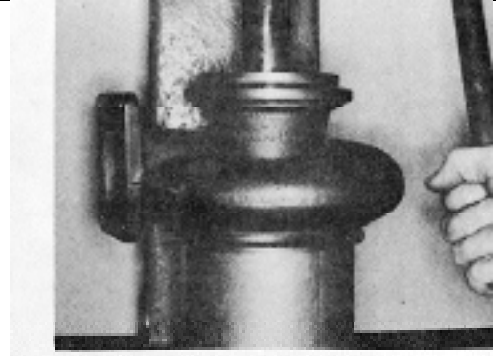
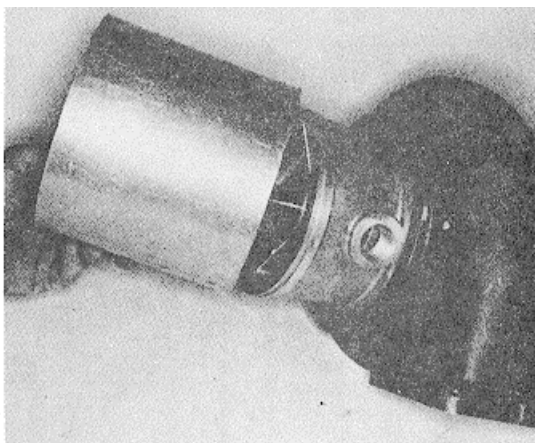

Fig. 10-12, T-519. Pressing rotor assembly and bearing housing from turbine casing
Fig. 10-11, T-518. positioning St-881 bearing support over bearing housing and against turbine casing
8. Position ST-881 Bearing Support over bearing housing and against turbine casing. Fig. 10-11. Place assembly on press. Fig. 10-12. Press rotor assembly and bearing housing from turbine casing.